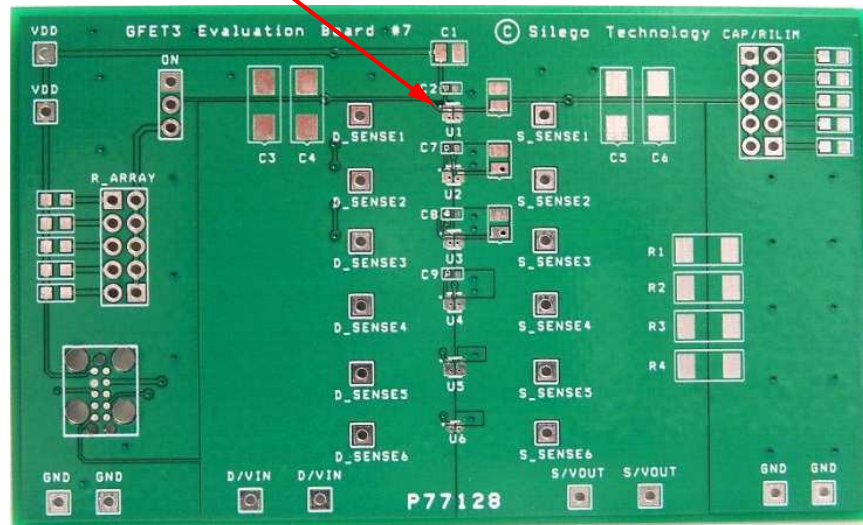

Figure 1. SLG5NT1533V Evaluation Board
2. Since the D and S pins dissipate most of the heat generated during high-load current operation, it is highly recommended to make power traces as short, direct, and wide as possible. A good practice is to make power traces with absolute minimum widths of 15 mils (0.381 mm) per Ampere. A representative layout, shown in Figure 1, illustrates proper techniques for heat to transfer as efficiently as possible out of the device;
A GFET3 Evaluation Board for SLG5NT1533V is designed according to the statements above and is illustrated on Figure 1. Please note that evaluation board has D\_Sense and S\_Sense pads. They cannot carry high currents and dedicated only for RDSON evaluation.